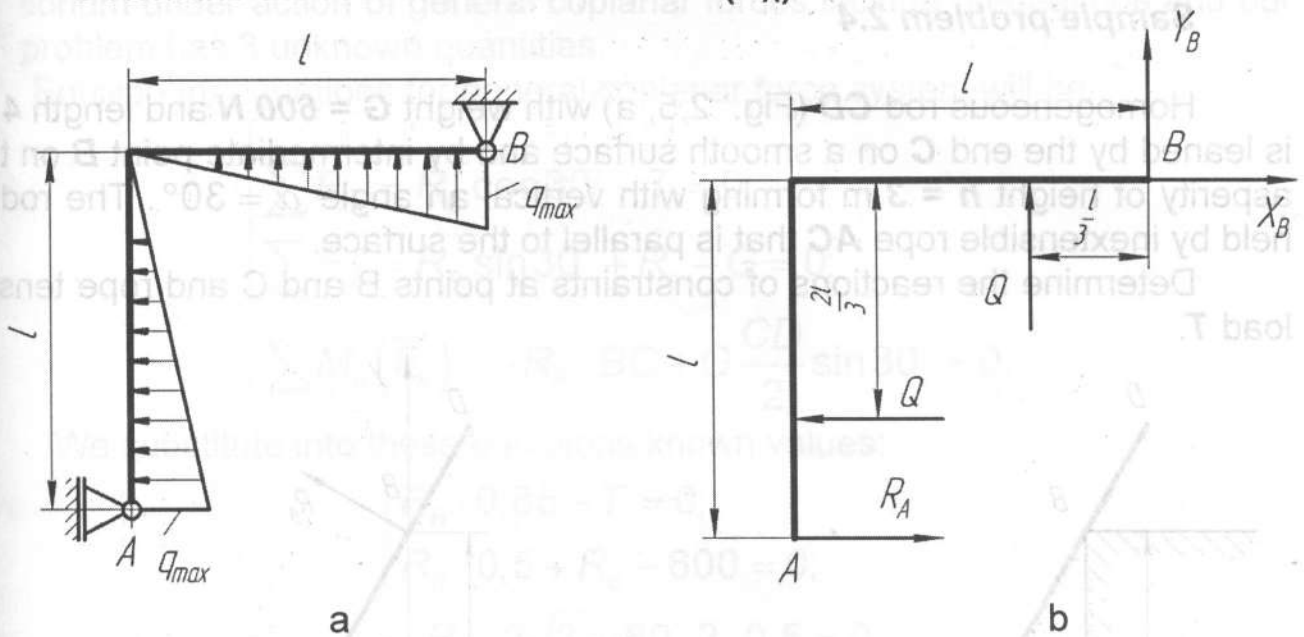

Fig. 2.4
On the double-beat frame (Fig. 2.4, a) distributed load with intensity  $q_{max}=20\text{ N/m}$  acts. The lengths of sections are  $l=0,3\text{ m}$ . Determine the reaction of constraint A ( $R_A$ ).
1. Construct a Free body Diagram (FBD) (Fig. 2.4, b).